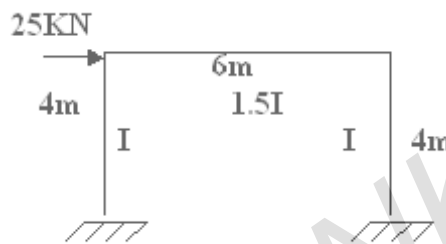

Figure 1
1. Analyse the portal frame shown in figure 1 and Sketch the BMD by using moment distribution method. [16]